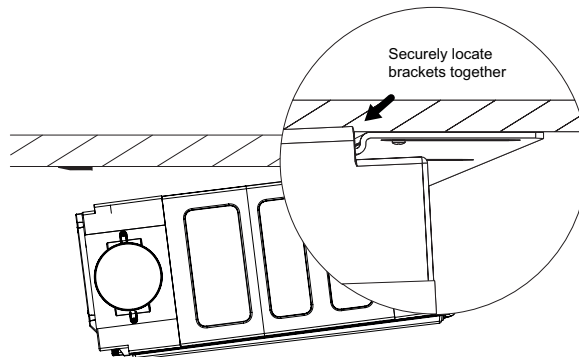
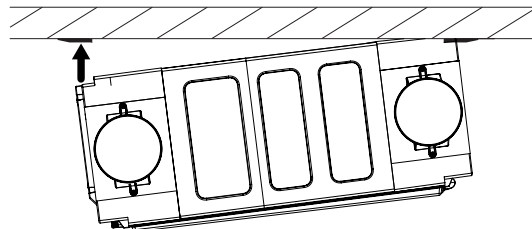

Figure 2
Figure 3
2.4.3 The unit fixes to the ceiling bracket by slotting the bracket attached to the back of the unit and sliding into place. First ensure connection is achieved on the “securely” fixed bracket (See Figure 2) and push unit up to ceiling, slide “loosely” fixed bracket to connect with the bracket on the back of the unit (See Figure 3).